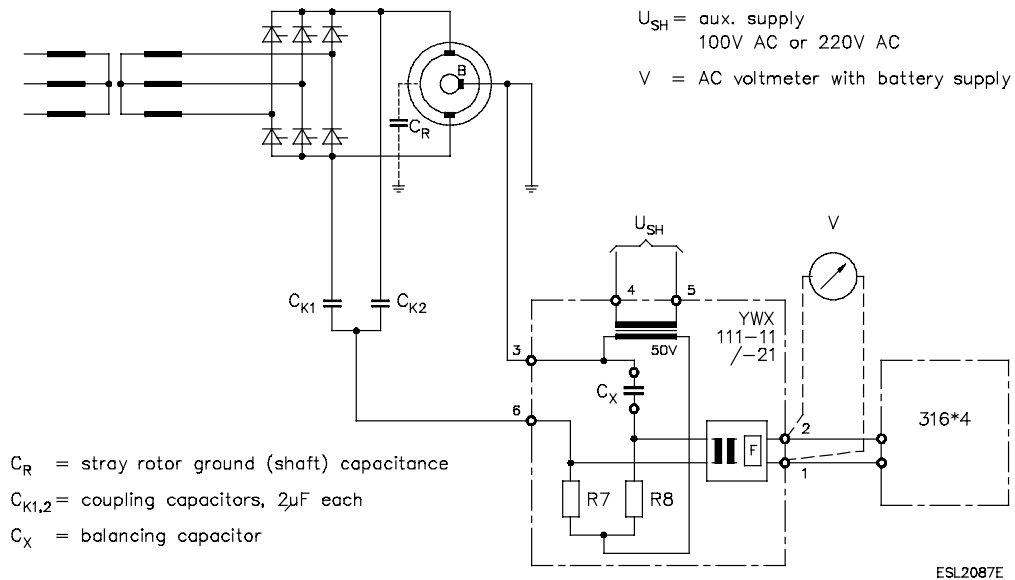

Fig. 4.5 Calibration of the YWX111-11/-21
- a) Circuit according to Fig. 4.8a (or Fig. 4.5):